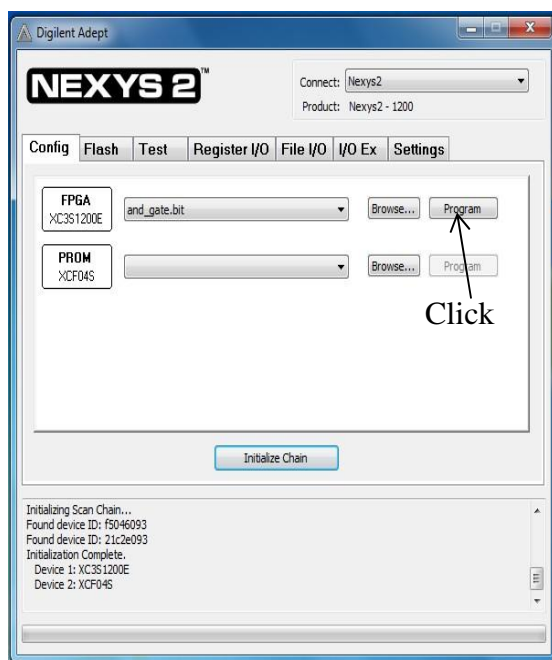
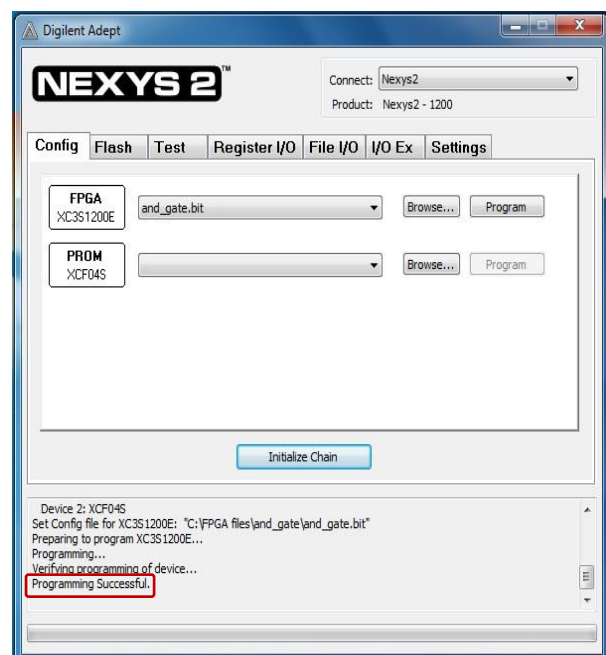

Figure 20: Programming
Figure 21: Showing the Programming Status
- Now click on the Program button (**figure 20**) to program the FPGA and if it successfully programming the following information should show up in the status window (**figure 21**). Ensure that the “Programming Successful” message appears in the message window.